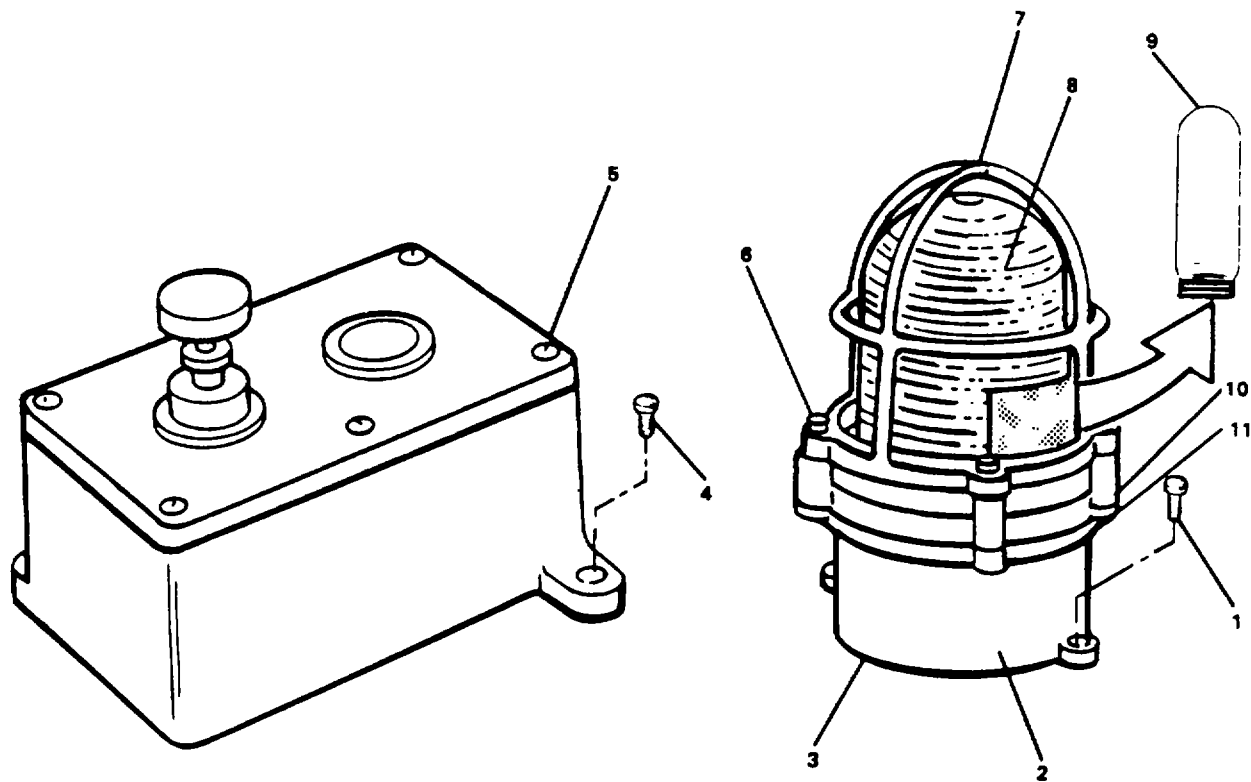

Figure 2-64. Repair Blinker and Key.
- (1) Remove hex bolts (1, Figure 2-64).
- (2) Lift up blinker light (2) and tag and disconnect wiring.
- (3) Remove gasket (3) and discard.